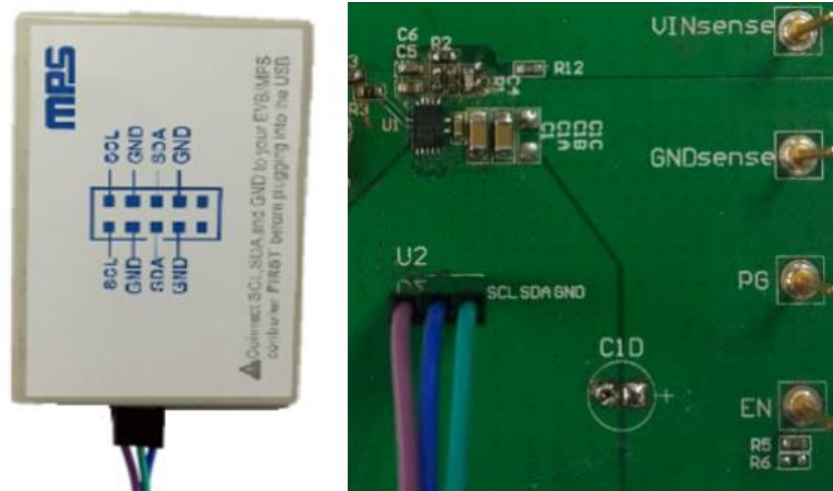

Figure 6: EVB to MPS I2C Communication Interface Wire Connection
2. Connect SCL, SDA, and GND (see Figure 6). If needed, refer to the datasheet for further clarification.